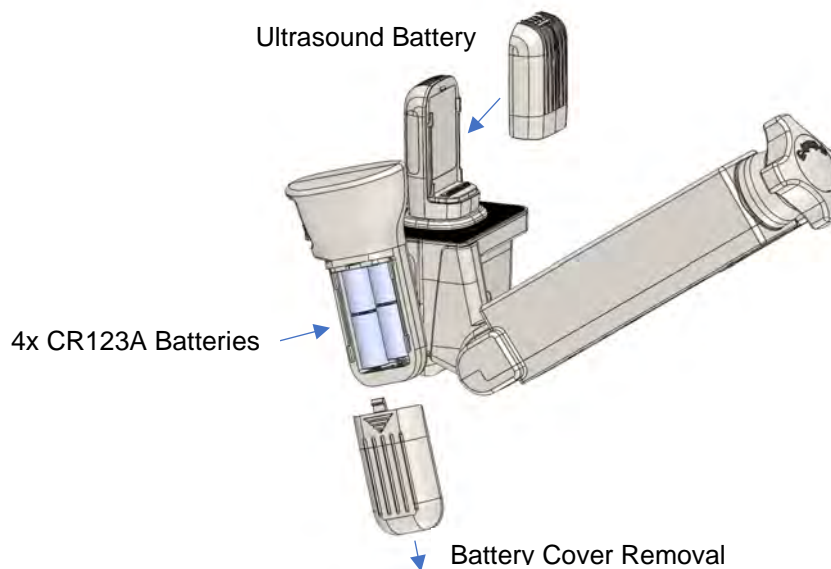

Figure 2. Battery Installation in CERTA Access Device.
3. Ensure the batteries are fully charged as indicated on the battery chargers and install in the CERTA Access Device User Handle and Integrated Ultrasound Probe respectively (Figure 2).